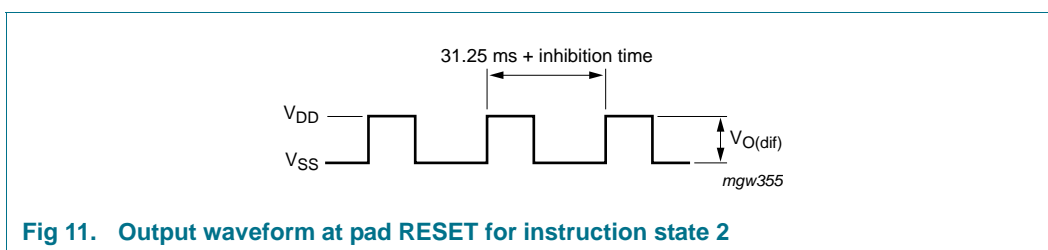
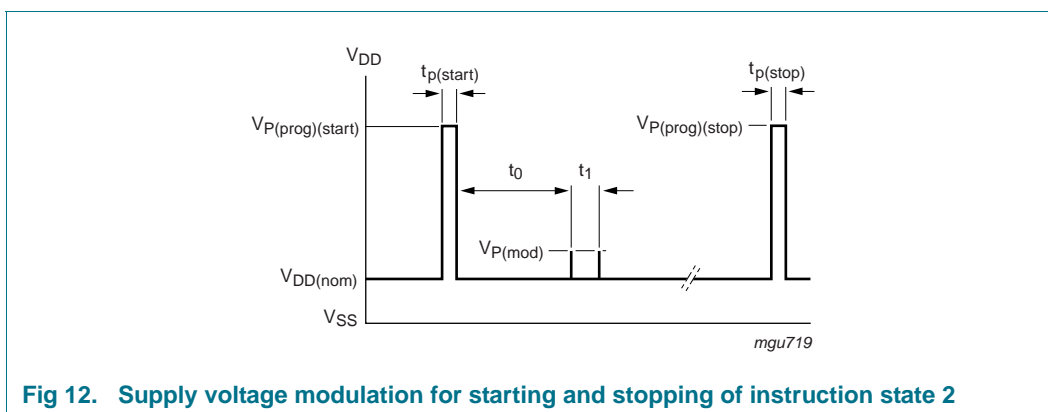

Fig 11. Output waveform at pad RESET for instruction state 2
Fig 12. Supply voltage modulation for starting and stopping of instruction state 2
Each instruction state is switched on with a pulse to $V_{P(prog)(start)}$. After this large pulse, an initial waiting time of t_0 is required. The programming instructions are then entered by modulating the supply voltage with small pulses (amplitude $V_{P(mod)}$ and pulse width t_{mod}). The first small pulse defines the start time, the following pulses perform three different functions, depending on the time delay (t_d) from the preceding pulse (see Figure 7, Figure 8, Figure 11 and Figure 12):
- State 2: inhibition time has a value of $n \times 0.122$ ms. A signal with periodicity of $31.25 \text{ ms} + n \times 0.122 \text{ ms}$ appears at pad RESET and as current modulation at pad V_{DD} (see Figure 11 and Figure 12)
See Figure 7, Figure 8 and Figure 12.